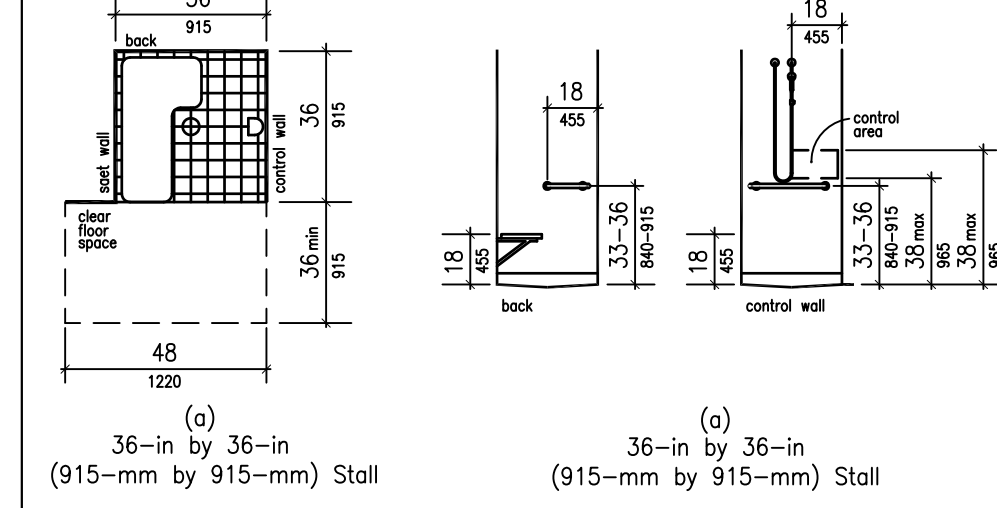

Fig 35
a. SHOWER STALL SIZE AND CLEAR FLOOR SPACE IN FRONT SHALL COMPLY WITH FIG. 35.